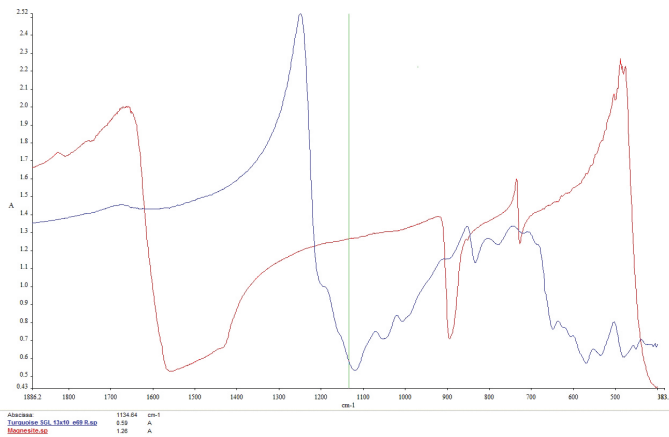

Fig. 1 Magnesite (red trace) is a carbonate. Turquoise (blue line) is a phosphate mineral. The reason for the name “fingerprint region” becomes clear.
**Fingerprint Region.** The wavenumbers that cover from 400 - 1450  $\text{cm}^{-1}$  are referred to as the fingerprint region. This is typically when the reflectance module would be utilized. This type of reading gives us good information on the species of gemstone or mineral type you may have. Fig.1 shows the reflectance reading of a magnesite imitating turquoise. The bands clearly show the carbonate nature of the magnesite as opposed to the phosphate nature of turquoise.